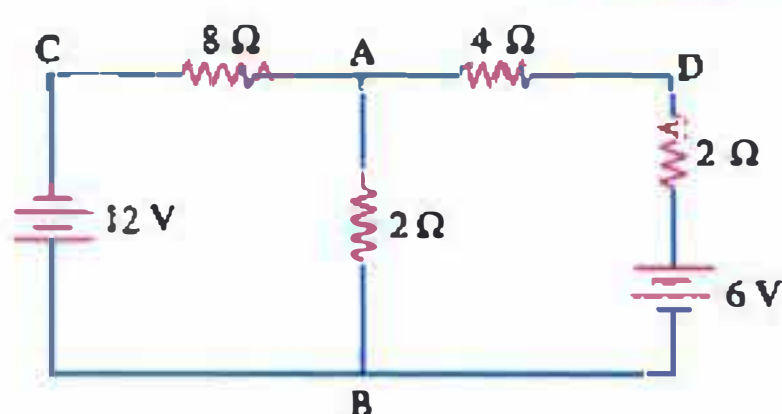

Fig. 3.6
2. With the help of Kirchhoff's laws, calculate the magnitude and direction of current flowing through branches AC , AB and AD of the circuit shown in Fig. 3.6.